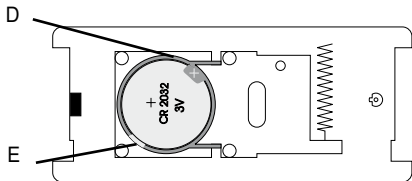

Figure 2: Battery compartment
- d) Insert the battery (coin cell CR 2032) into the plastic support on the PCB (fig. 2 D).
- e) If you would like to replace a battery, remove the old one with a small flat screwdriver from its plastic support by lifting the edge slightly (fig. 2 E). Afterwards you can insert a new battery. Kindly ensure correct polarity of the battery.